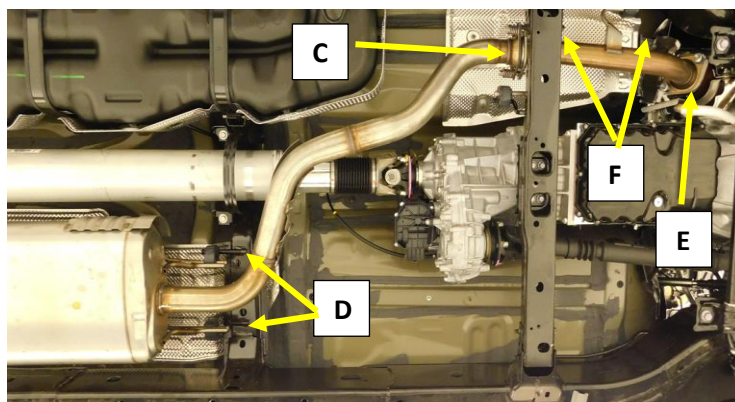

Figure.2
5. Remove the spring bolts at the flanged connection between the down pipe and the muffler inlet pipe **(C)**. **Fig.2**
7. Remove the spring bolts from the flanged connection between the catalytic converter and the down pipe **(E)**, remove the rubber isolators **(F)** and remove the down pipe. **Fig.2**